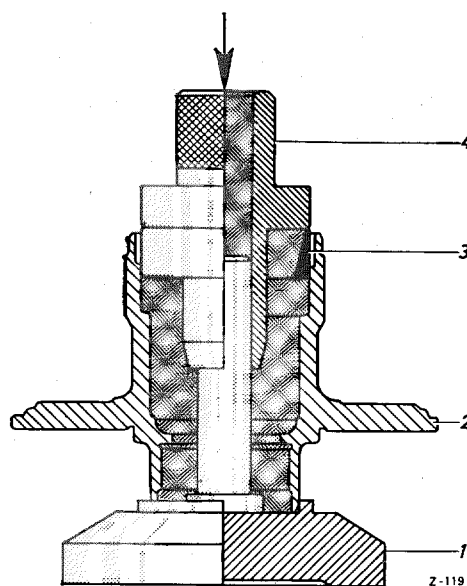

Fig. 33 — 4/10
In order to form a better seal, the spacer rings (6) (Fig. 33 — 4/9) have a right-hand or left-hand thread pattern marked on the outer edges (see Job No. 33 — 5, Paras. 2 and 3).